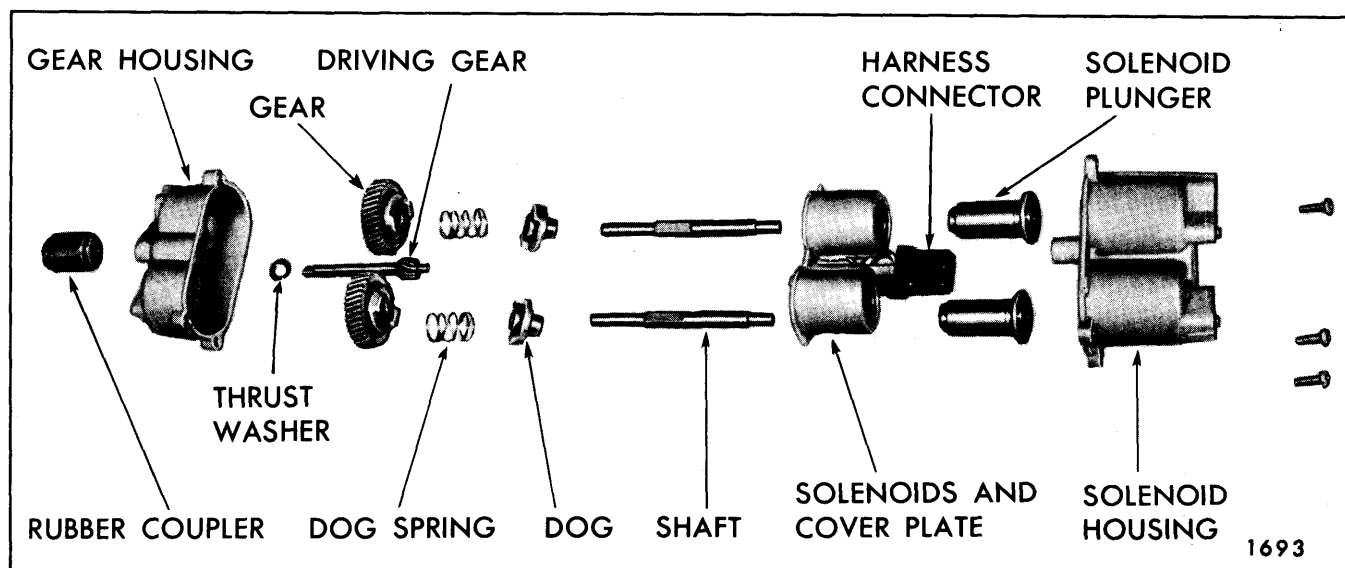

Fig. 15-10—Four-Way Seat Adjuster Transmission
2. Remove screws securing gear and solenoid housings together; then, carefully separate housings and remove component parts of transmission assembly (Fig. 15-10).
housings and remove component parts of transmission assembly (Fig. 15-10).